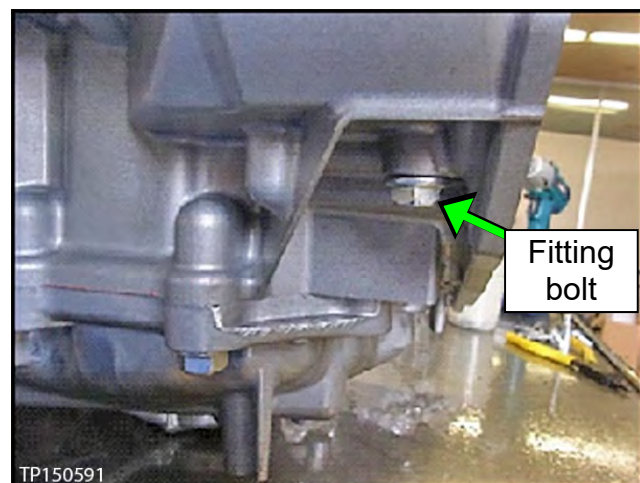

Figure 63
43. Install the fitting bolt finger tight (Figure 63).